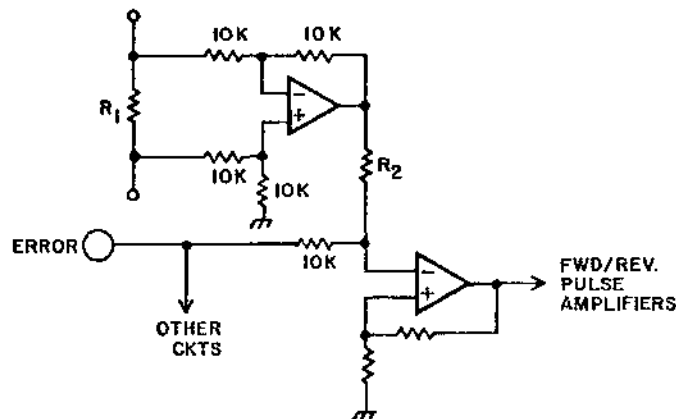

Figure 2-27. Simplified Feedback Circuit
Figure 2-27 is a simplified schematic diagram of the feedback circuit. This circuit includes the .1 ohm resistor C53 (R) located in one of the lines to the servo motor, across which is connected a precision balanced 10K resistor network and difference amplifier B62-10. The value of resistor C53 is such that its voltage drop to current ratio is 1 to 10. (.1 volt drop equals 1.0 ampere of motor current.) Difference amplifier B62-10 presents this voltage to the servo error input terminal 2 of amplifier B55-6. The two signals are summed at a ratio of 10 input to 1 feedback. As current through the drive motor approaches the commanded level, the output of B55-6 will diminish. When motor current matches command current, the Pulse Rev switching transistor F63 will be turned off. This removes motor current, which removes feedback voltage, and F63 is turned back on again. The circuit will oscillate in this manner to maintain motor current at the commanded level.